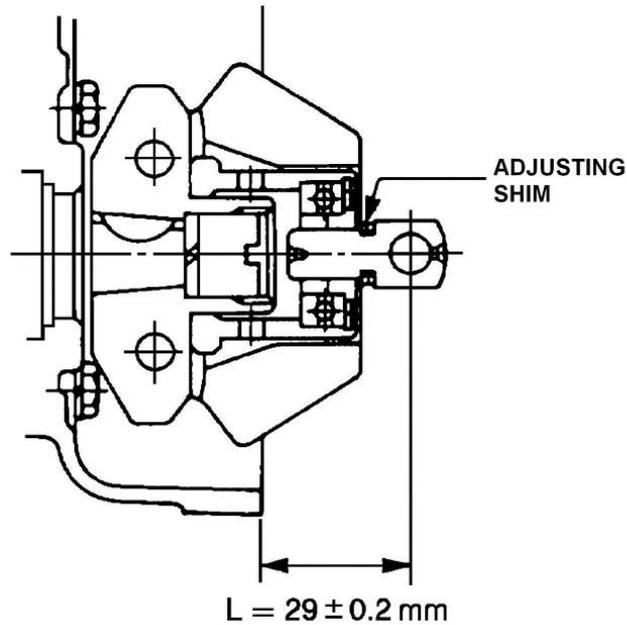

Figure 109 Shifter and Sleeve Assembly Setting Dimension - Sectional View
- e. Position the shifter and sleeve assembly in the flyweight assembly ensuring that the shifter and sleeve assembly contacts the flyweight holder. Hold the shifter and sleeve assembly against the flyweight holder to ensure that the flyweights are in the zero lift position. Measure the distance between the governor housing face and the centre of the pivot pin hole in the shifter (Figure 109). The dimension should be between 28.8 to 29.2 mm (1.134 to 1.149 in).